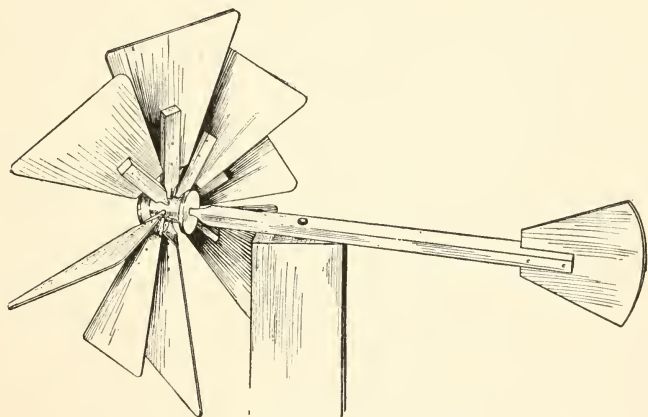

FIG. 9. — An Eight-blade Windmill.
**The Eight-blade Windmill** in Fig. 9 has a spool hub (Fig. 10), and blades made of cigar-box wood, shingles, tin, or cardboard (Fig. 11). You will see by Figs. 10 and